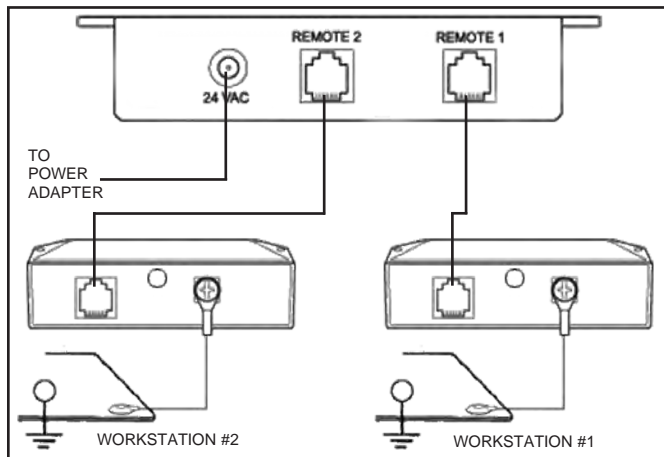

Figure 4. Wiring connection instructions for the 41221 monitor control unit.
Figure 4 shows the monitor control unit as it is viewed from the rear, with the work surface wiring in place.
1. Use the rear phone jack connections and connect the Satellite Remote Units to the base unit with the phone cables. See Figure 4 for wiring connection instructions.
4. Confirm that worksurface surface resistance is 1×10^7 ohms or less. Connect the ring terminal end of the worksurface cord included with the unit to the screw on the back of the satellite. Snap the other end to the worksurface grounding point as shown in Figures 4 and 5.